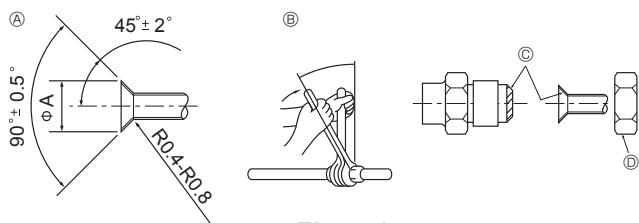

Fig. 4-1
4.2. Connecting pipes (Fig. 4-1)
④ Flare nut tightening torque